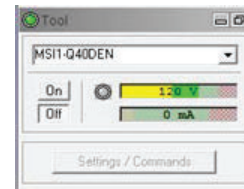

Figure 4-1 Tool panel
3. ☐ Select the relevant QL40-DEN tool from the drop down list (**Figure 4-1**) in the software's **Tool** panel (if your tool is not listed check that your tool configuration file is stored in the designated folder on your computer).